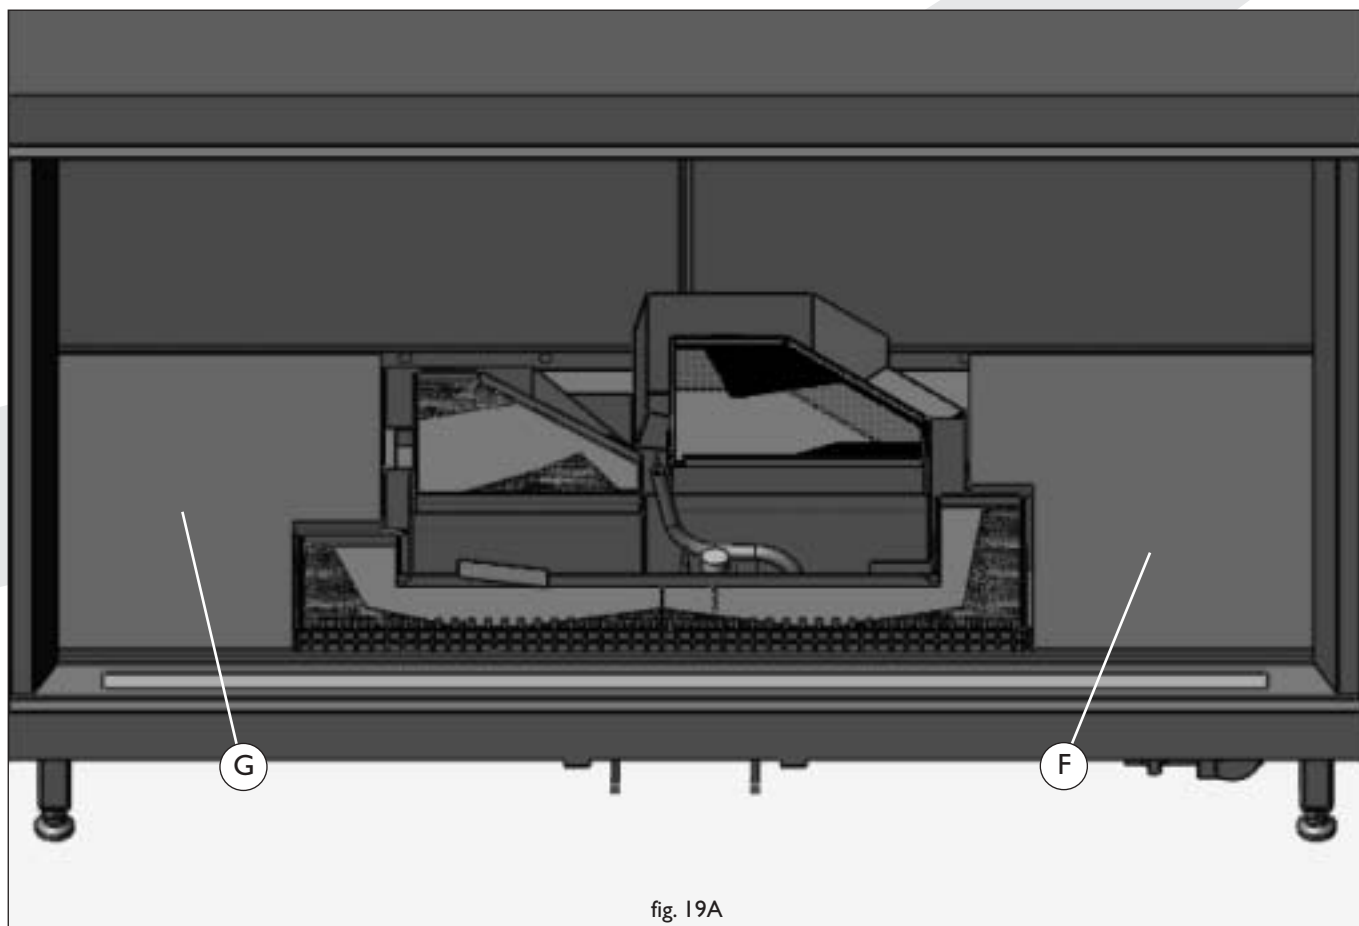

fig. 19A
- Position the plates F(806429) and G(806430) with the smooth side up, as shown in figs. 19A, 19B and detail 19C. Ensure the plates join at the points indicated by the arrows. There will be a gap around the burner, this is normal. Be careful, the plates are breakable!